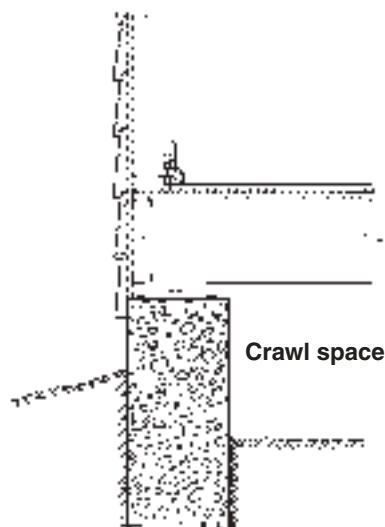

Figure 6. Construction showing crawl space.
- If the house is of pier and beam construction, inspect the area between the floor and the soil (crawl space) (Fig. 6). Examine the inside of the beams, chimney bases, hearths or piers for shelter tubes. The crawl space should have a minimum 18-inch clearance between floor joists and the soil, and at least 12 inches between floor beams and the soil.